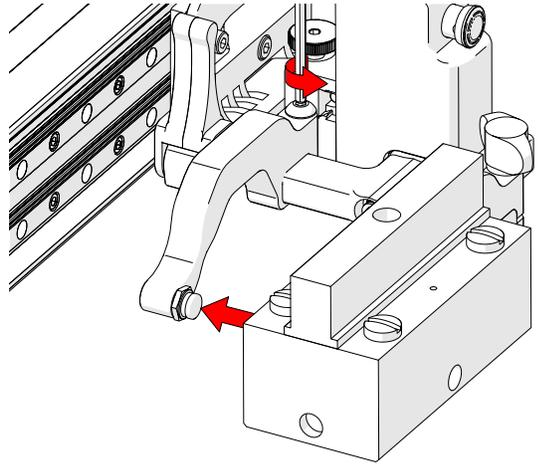

Fig. 109 - Adjust inner arm
4. Loosen the arm clamp screw (Fig. 109).